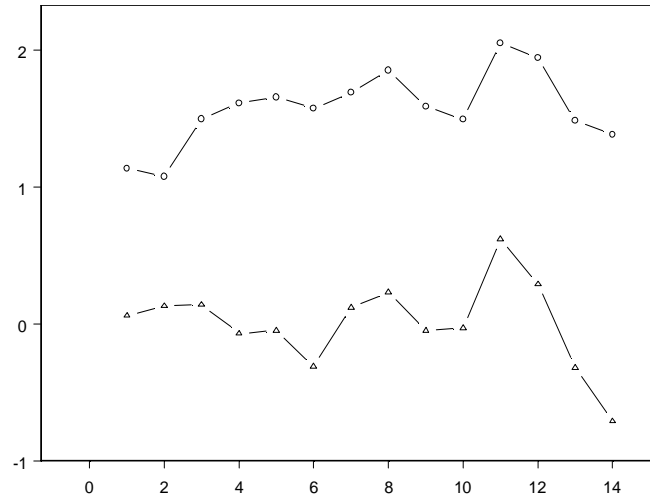
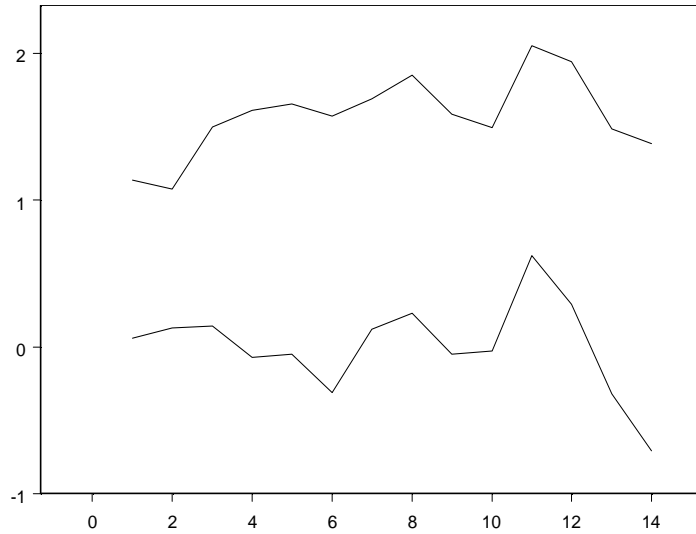

Figure 3.23: *Line with isolated points plots of tel.gain and diff.hstart.*
Figure 3.24: *Y series lines plot of tel.gain and diff.hstart.*
- While pressing the SHIFT key, click the **Isolated Points** button  on the **Plots 2D** palette. The resulting graph is shown in Figure 3.23.
2. Click the **Y Series Lines** button  on the **Plots 2D** palette. The resulting graph, shown in Figure 3.24 below, is very similar to Figure 3.23.